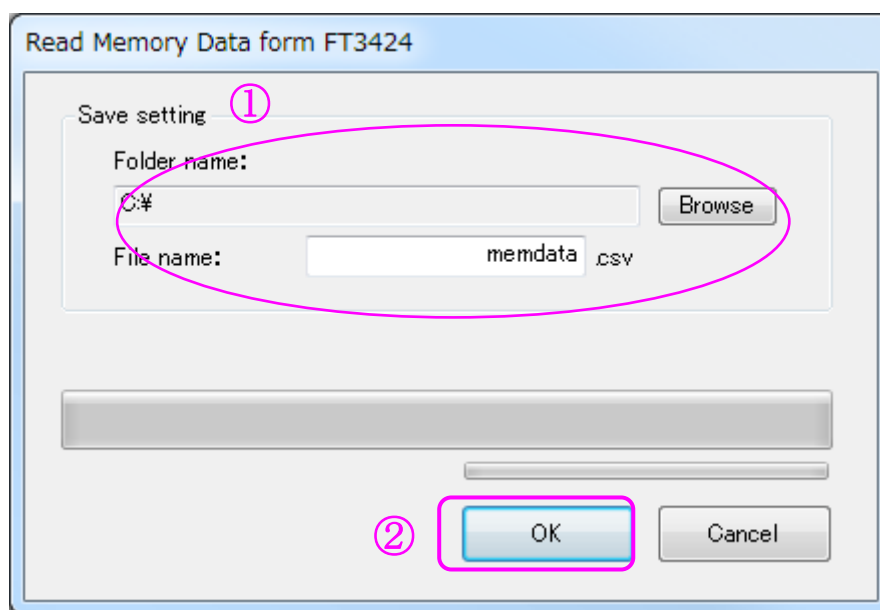

Fig.3-23
(2) Read Memory Data dialog will appear. (Fig.3-23)